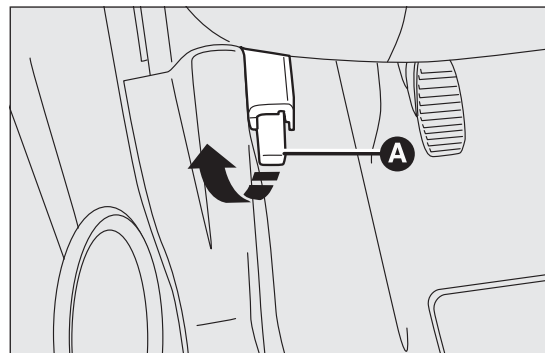

fig. 58
- ☐ pull lever A fig. 58 in the direction indicated by the arrow;